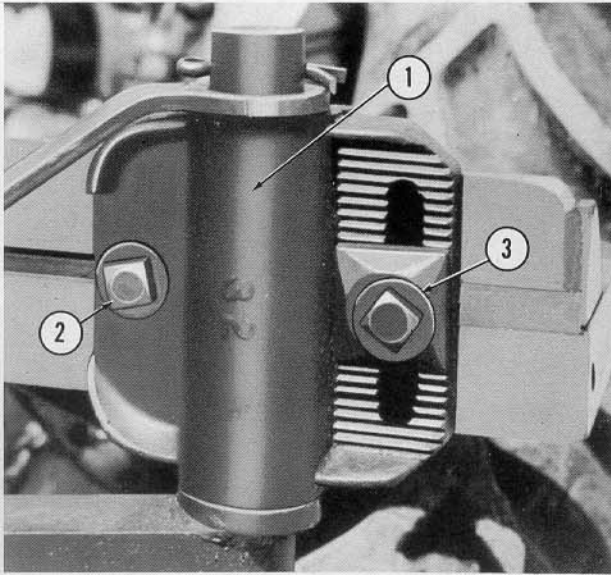

Figure 8
- c. Attach a saddle trunnion (1), Figure 8, to each end of the main frame by placing
NOTE 1: *The hole in the serrated saddle lock (3), Figure 8, is offset to one side to give additional bearing surface on the inside of the saddle trunnion casting. Place the serrated saddle lock on the saddle trunnion so that the teeth will engage and the offset hole is to the outside of the casting. See Figure 8. If the saddle lock is in the wrong position it will overhang the saddle trunnion casting.*